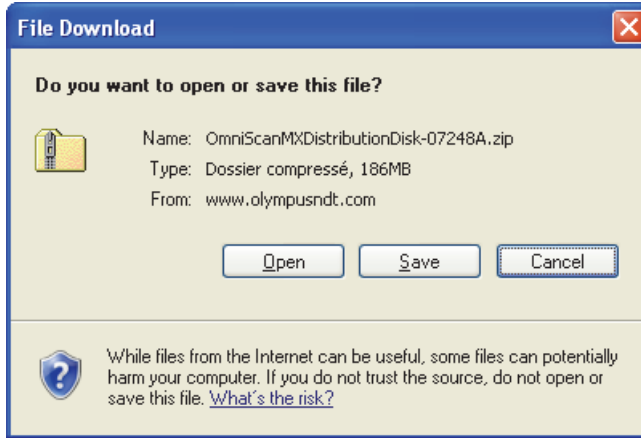

Figure 4-3 The File Download dialog box
5. In the **File Download** dialog box, click **Save** (see Figure 4-3 on page 78).